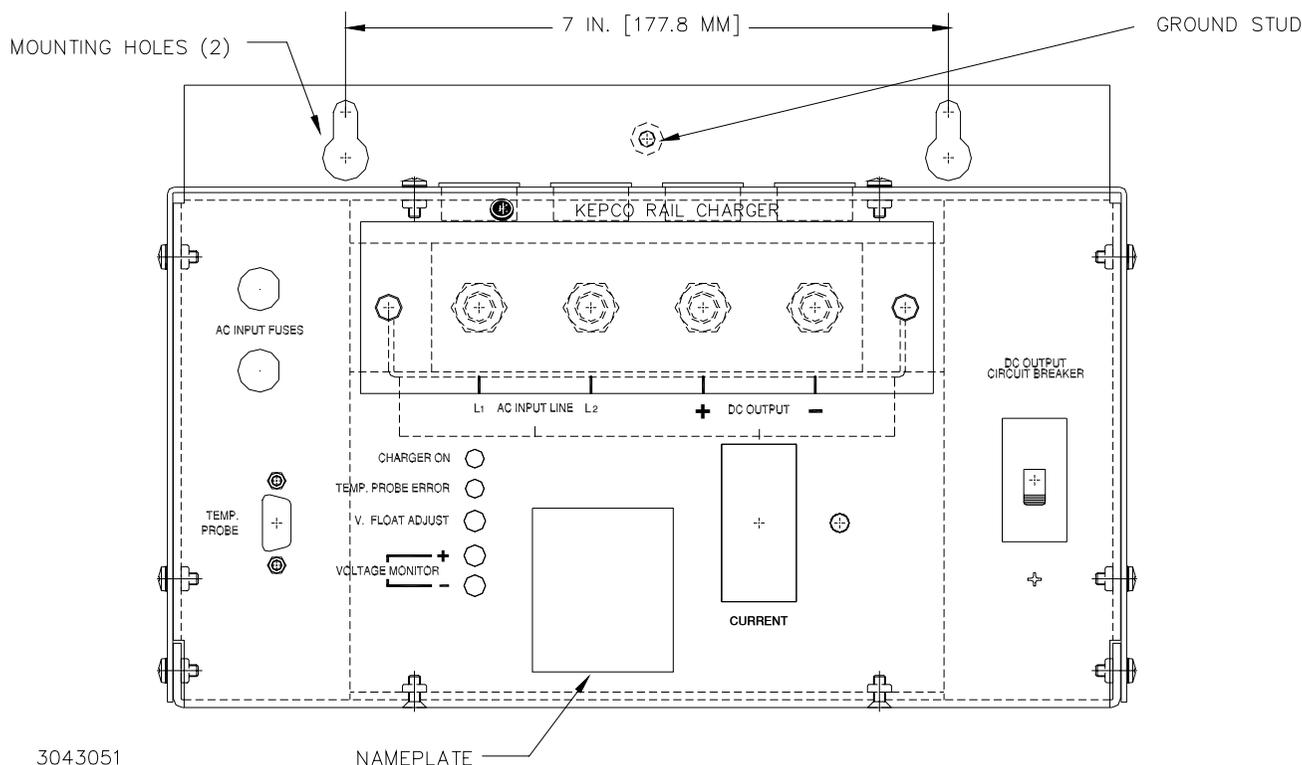

FIGURE 1. MODEL KRR 12-40, FRONT VIEW
3. Connect the ground connection to the ground stud (see Figure 1) using the 10-32 x 3/8 ACF Brass Hex nut provided (Kepco P/N 102-0007)
1. Two slotted holes, 7 inches apart, are provided on the upper rear chassis (See Figure 1) to wall mount the unit. The unit has forced air cooling from a single fan located within the integral RKW 15-43K-26568 power supply as well as ventilation holes in the chassis which must be kept clear from obstructions to ensure proper air circulation. Enough space must be provided around the chassis to allow the hot air to exhaust from the components inside the chassis.
4. Connect ground wire to the ground stud (see Figure 1) using the 10-32 x 3/8 ACF Brass Hex nut provided (Kepco P/N 102-0007)